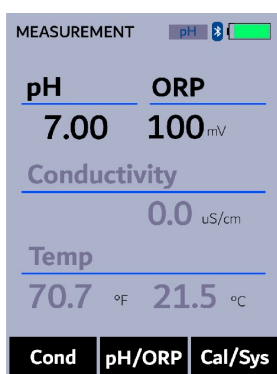

Figure 49.
4. Once the measurements are completed, the values will be displayed and the prompt message will disappear (Figure 49).